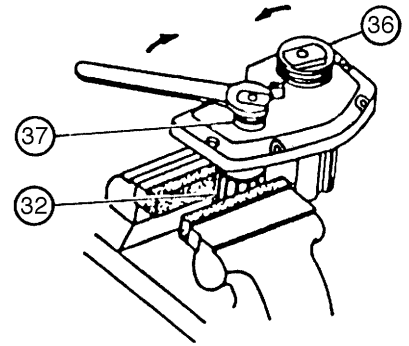

Fig. 5
1-3-2. Pulley (A) and Pulley (B) Disassembly (See Fig. 5)
- (1) Pulley (A) [37] (right-hand threaded) and Pulley (B) [36] (left-hand threaded) are screwed onto the armature shaft and the cutter block spindle respectively. To remove Pulley (A), fix the Armature [32] firmly in a vise, and unscrew the pulley in a clockwise direction with a wrench.
- (2) To remove Pulley (B), fix the cutter block firmly in a vise, and unscrew the pulley in a counterclockwise direction with the wrench. It is recommended that gloves or a thick rag be used to prevent injury to fingers and hands.